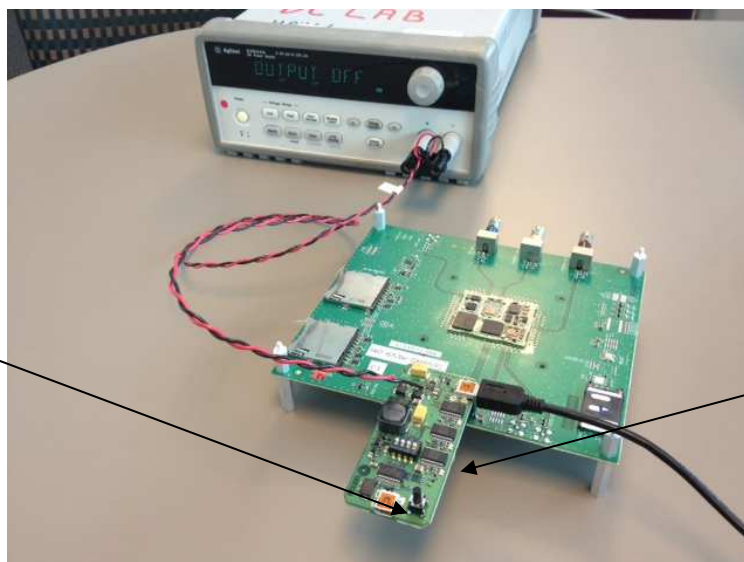

Figure 3. LNAD on a development board
- [2] LNAD on a development board, see Fig. 3.